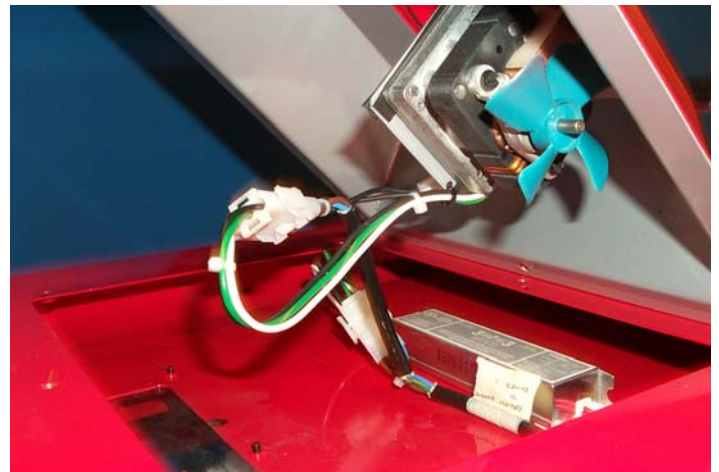

Fig.2
2. After removing the allen bolts, tip the marquee on its side to allow easy disconnection of the harnessing. Unplug the two mate lock connectors (be sure that power has been disconnected from the unit). See fig. 2